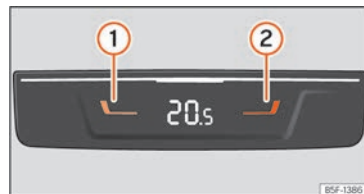

Fig. 112 In the centre console, rear section: controls for the rear seats.
- Press buttons **1** and **2** \ggg Fig. 112 to adjust the temperature of the rear zone.